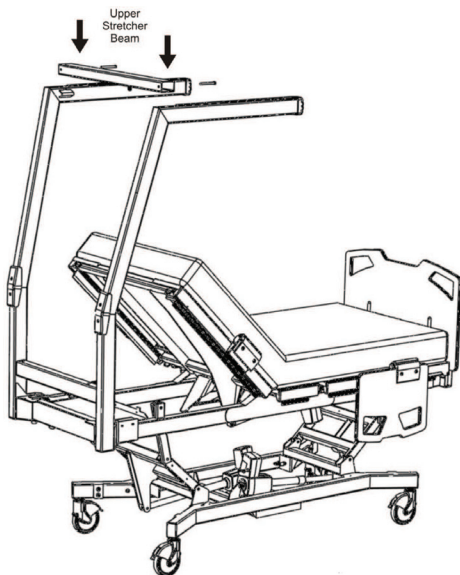

Figure 5
- Install upper stretcher beam to the patient helper frame, loosely bolt with 3/8" bolts (2) and nylon locking nuts (2) (see Figure 5).
- Slide carriage assembly as far forward as possible to middle of bed. Tighten lower stretcher nuts from steps 3-6 (see Figure 5 and 6).